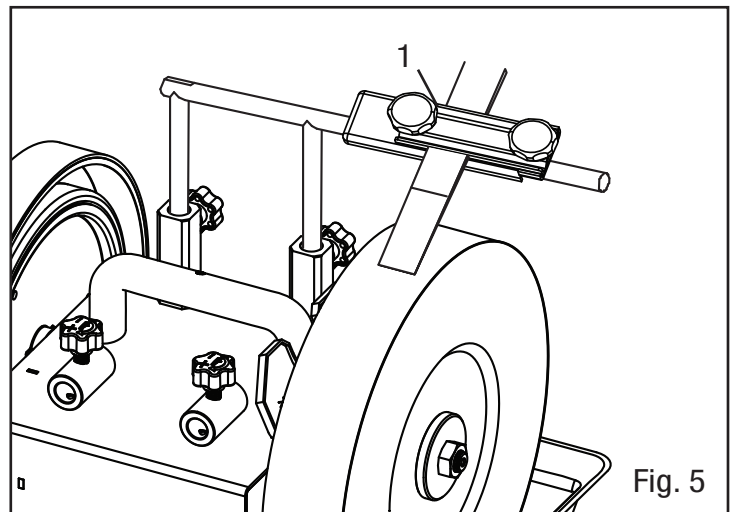

Fig. 5
2. Loosen the locking knobs and place the blade in the jig so that one edge of the blade is positioned against the end stop (Fig. 5 - 1).